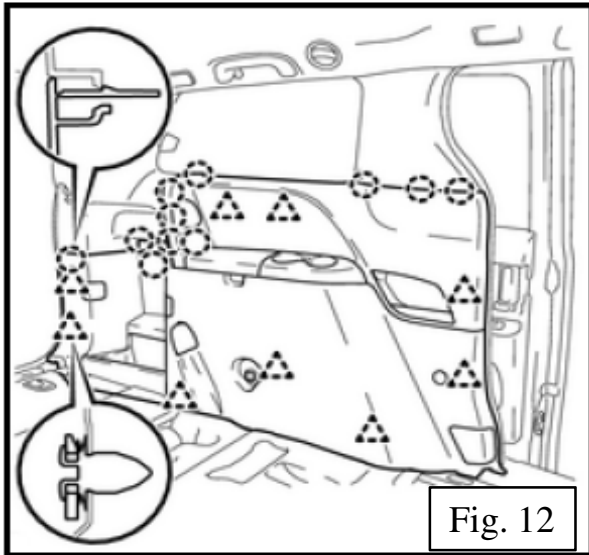

Fig. 12
14.  Using the trim panel removal tool, remove the driver's side rear panel from the sliding door to the rear tailgate area, including the panel under the window. If present, remove the sensor. Set aside for modifications to panel (Fig.12).